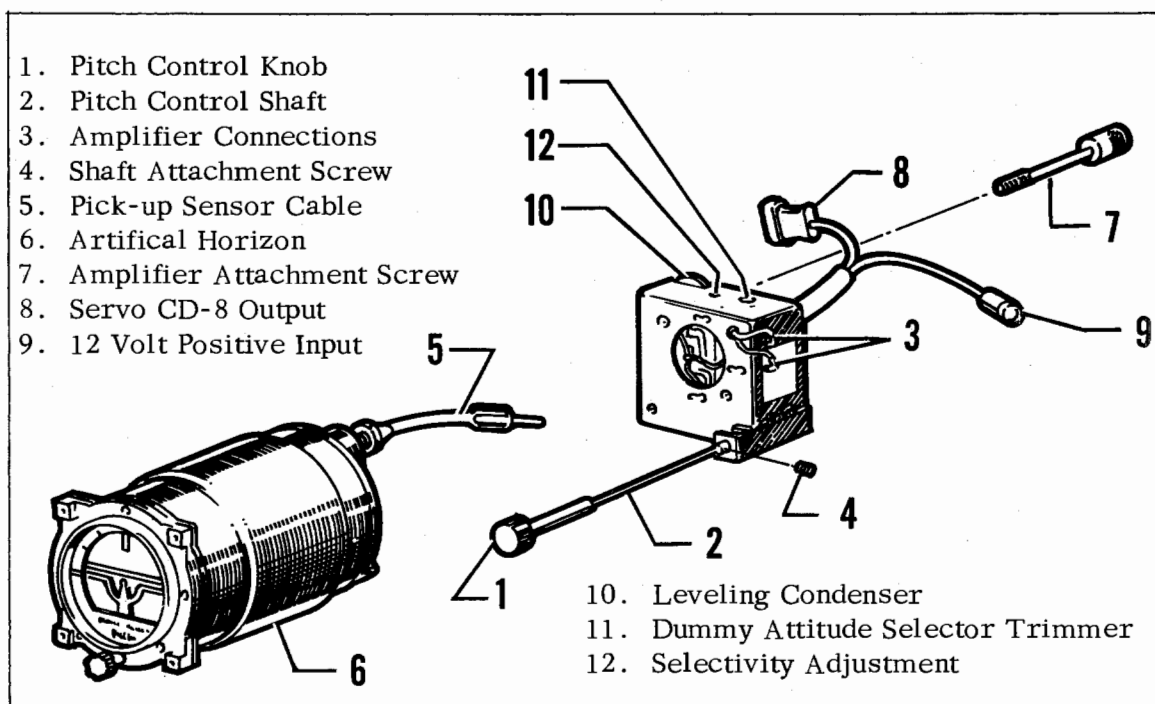
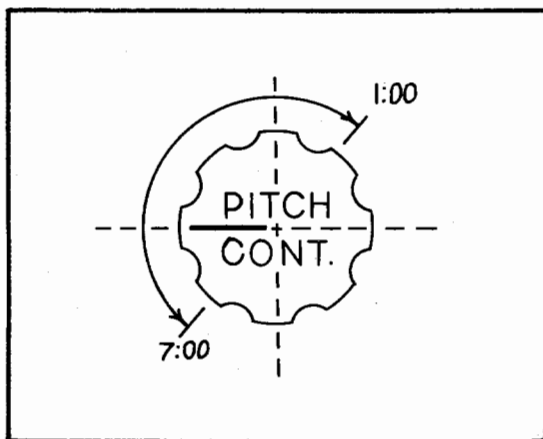

Figure 2-2. Artificial Horizon with Amplifier
Figure 2-4. Manual Position
When removing the Artificial Horizon the Pitch Control Shaft (See 2, figure 2-2) must be removed from the Amplifier Assembly prior to removing the instrument.
1. Disconnect the two wires (2), (See 3, figure 2-2) which connects the Amplifier to the instrument.
2. At the back of the Amplifier remove one mounting screw (7), then
a. Ascertain whether the Pitch Control shaft (See 2, figure 2-2) is in the manual or automatic position. (In manual position the shaft can be rotated 180° , while in the automatic position only 90° of travel is used.) (Refer to figures 2-4 and 2-5.)
- e. Check travel of the control by rotating the knob in both directions, the control should stop in the position shown in figure 2-4.